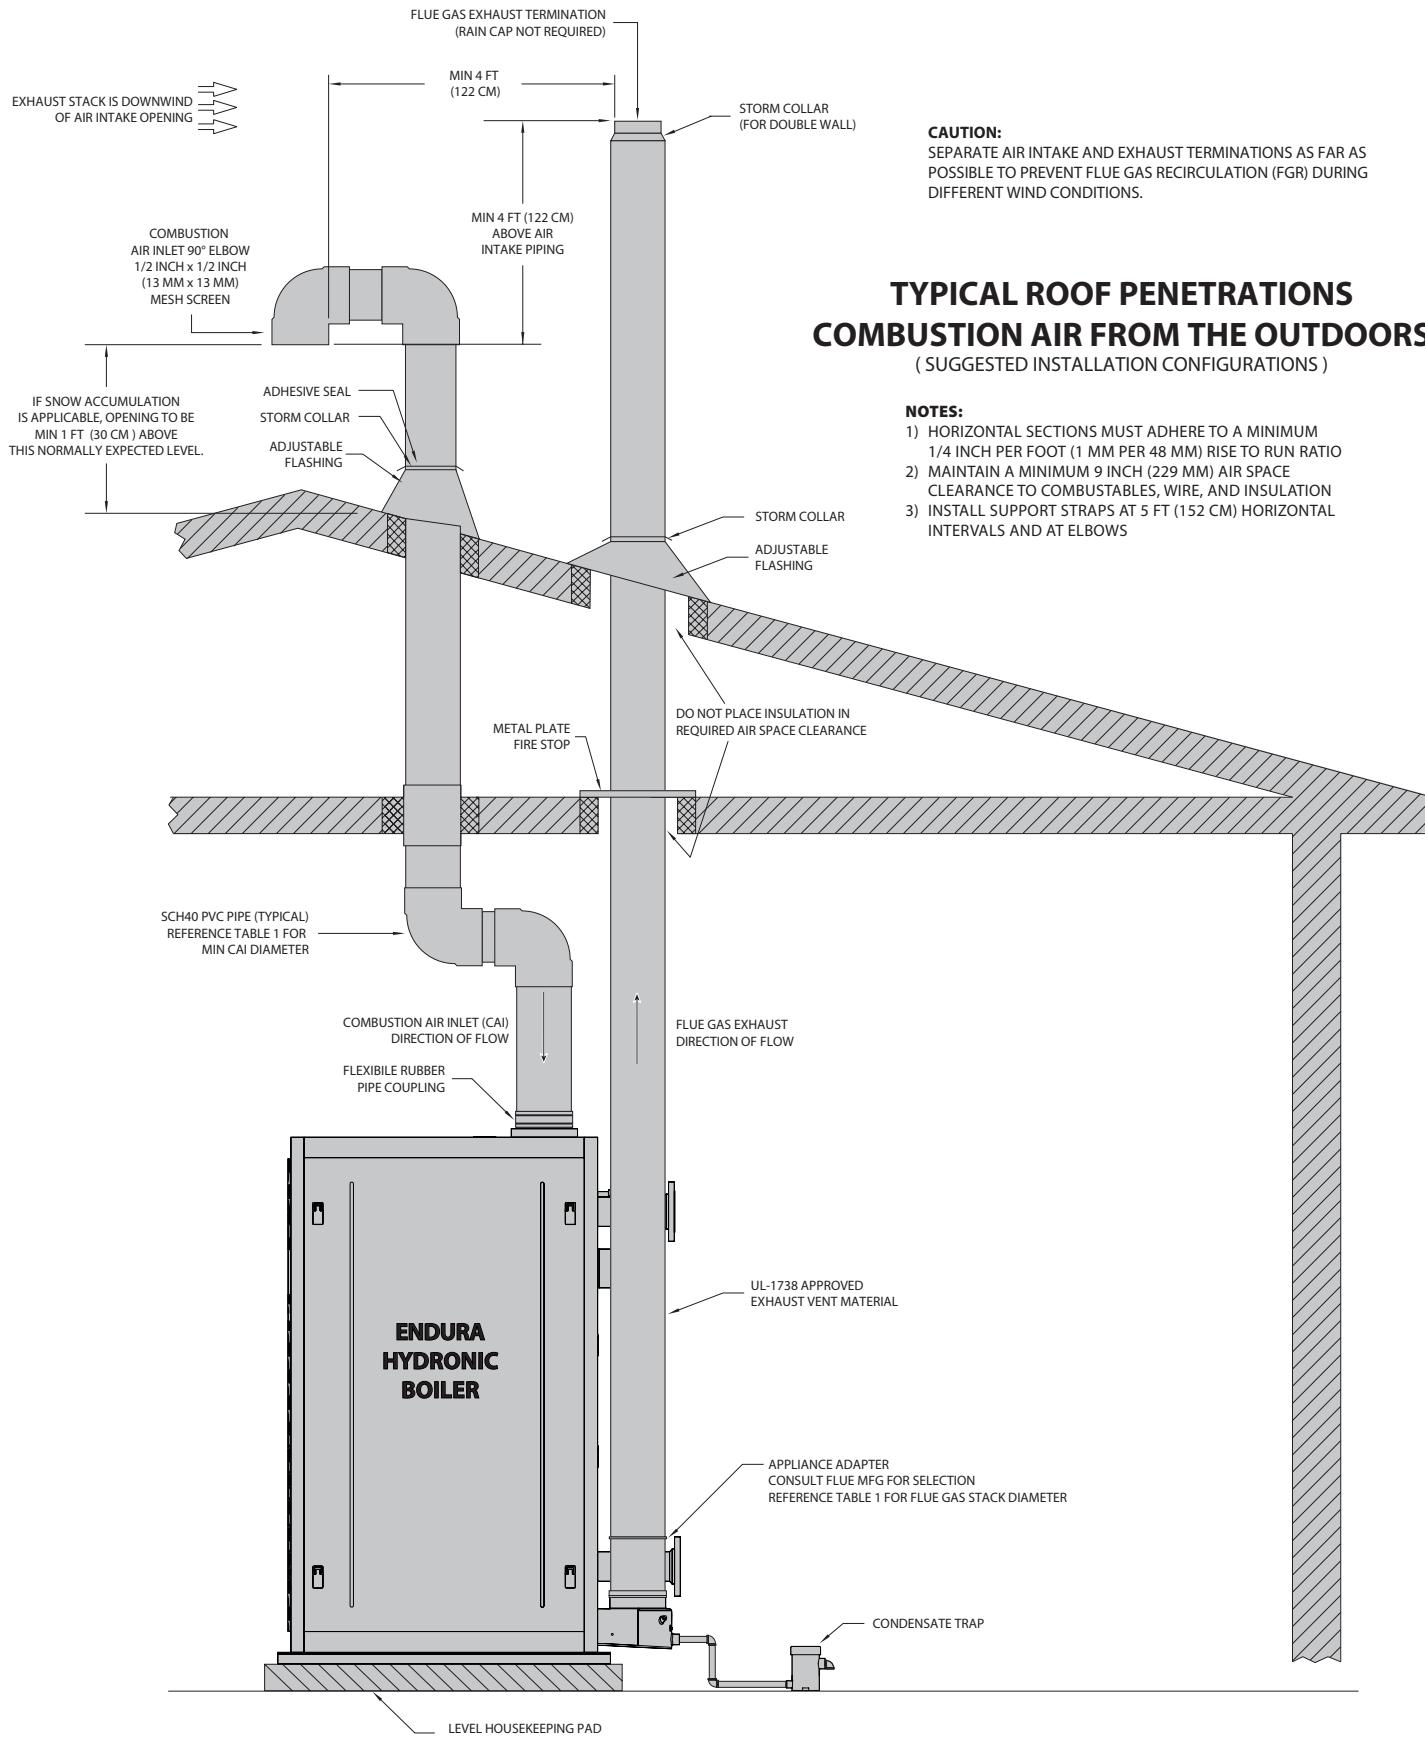

FIGURE 22 - ROOF PENETRATION DETAILS
2. All vent pipes and fittings must be installed with appropriate air space clearances to combustibles. These air space clearances apply to indoor or outdoor vents—whether they are open, enclosed, horizontal or vertical or pass through floors, walls, roofs, or framed spaces (See Figures 22, 23 and 24). The air space clearances should be observed to joists, studs, sub floors, plywood, drywall or plaster enclosures, insulating sheathing, rafters, roofing, and any other material classed as combustible.
9. The use of rain caps on the flue termination is not recommended. Rain caps contribute to ice buildup, stagnant vapor plumes, flue gas recirculation (FGR) and additional vent pressure loss. See Figure 22 and 23.
Adhere to the following for installation (see Figure 22 and 23):